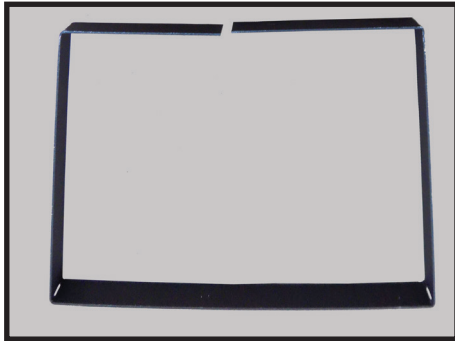
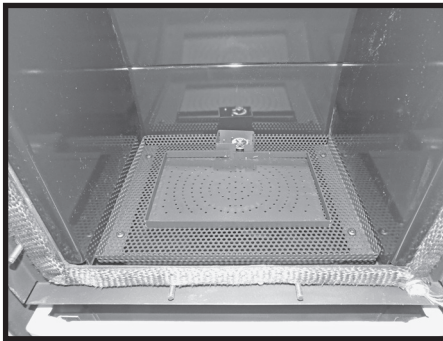
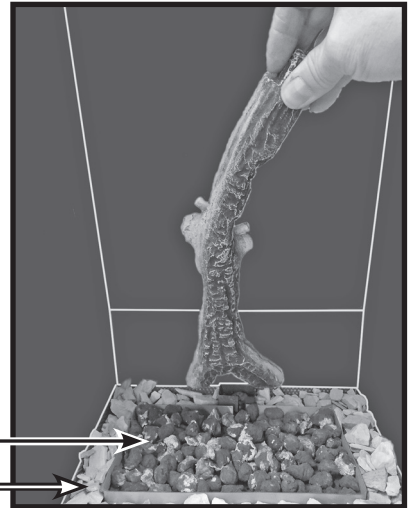

Figure 46: Media divider.
Figure 47: Media divider in place.
Figure 48: Log 1.
The Driftwood log-set with pebbles requires that any crushed glass media be removed if it is present. The pebbles are spread out around the perimeter of the burner basket after which the glowing embers are evenly spread out inside of the burner basket - (Figure 48). The stove is delivered with two media dividers - a large one for the Mirage 30 model (Figure 46), and a smaller one for the Mirage 18 model. The divider will be placed into the center of the burner basket (Figure 47) and is used to separate the pebbles and glowing embers.
1. Position rear log #1 at the back of the firebox (Figure 48).
Note: Keep gap in media divider (Figure 46) faced to the rear of the burner basket, next to the pilot assembly.